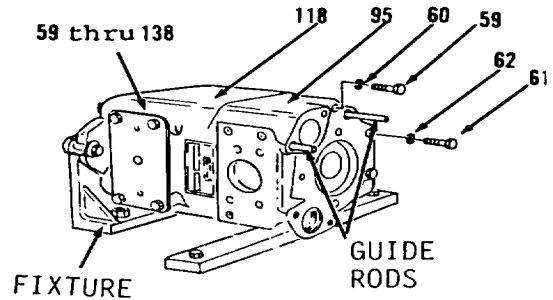
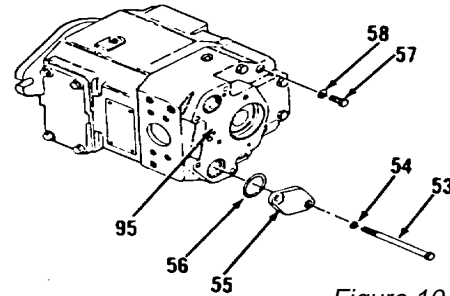
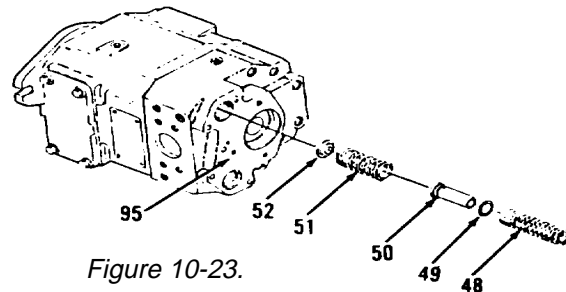

Figure 10-25.
Figure 10-24.
Figure 10-23.
65. Install two guide rods in body (118, Figure 10-25).
66. Position head (95) on guide rods.
67. Install two lockwashers (62), bolts (61), three lockwashers (60) and bolts (59).
69. Install lockwasher (58) and bolt (57, Figure 10-24).
70. Install new preformed packing (56), cover (55), two lockwashers (54) and bolts (53).
71. Install spacer (52), spring (51), seat (50), three washers (49) and spring (48) in head (95, Figure 10-23).